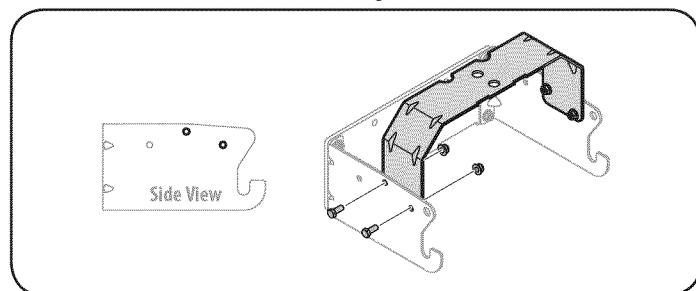

Figure 4
- **Para Modelos 247.28901, 247.28911, 247.28902, 247.28904, 247.28919, 247.28905, 247.28881, 247.28883, 247.28884, 247.28885, 247.28886:** Vea la Fig. 4.